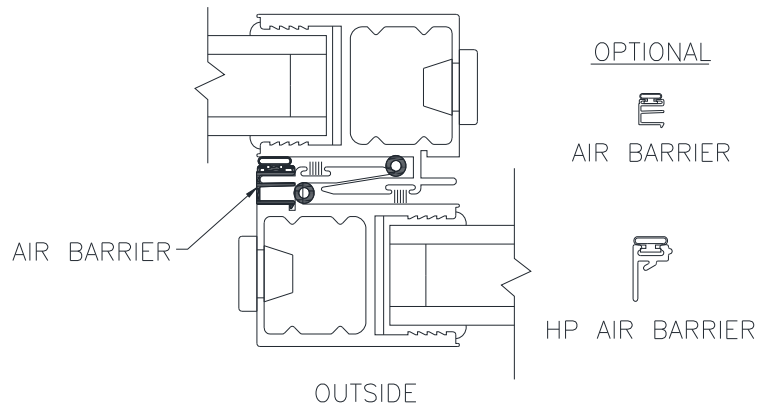

Figure 30:
6. Optional: Two 6" plastic air barriers (per interlocker set) are provided in the screw pack. Snap these in the back of all exterior interlockers at the top and bottom (Figure 30).